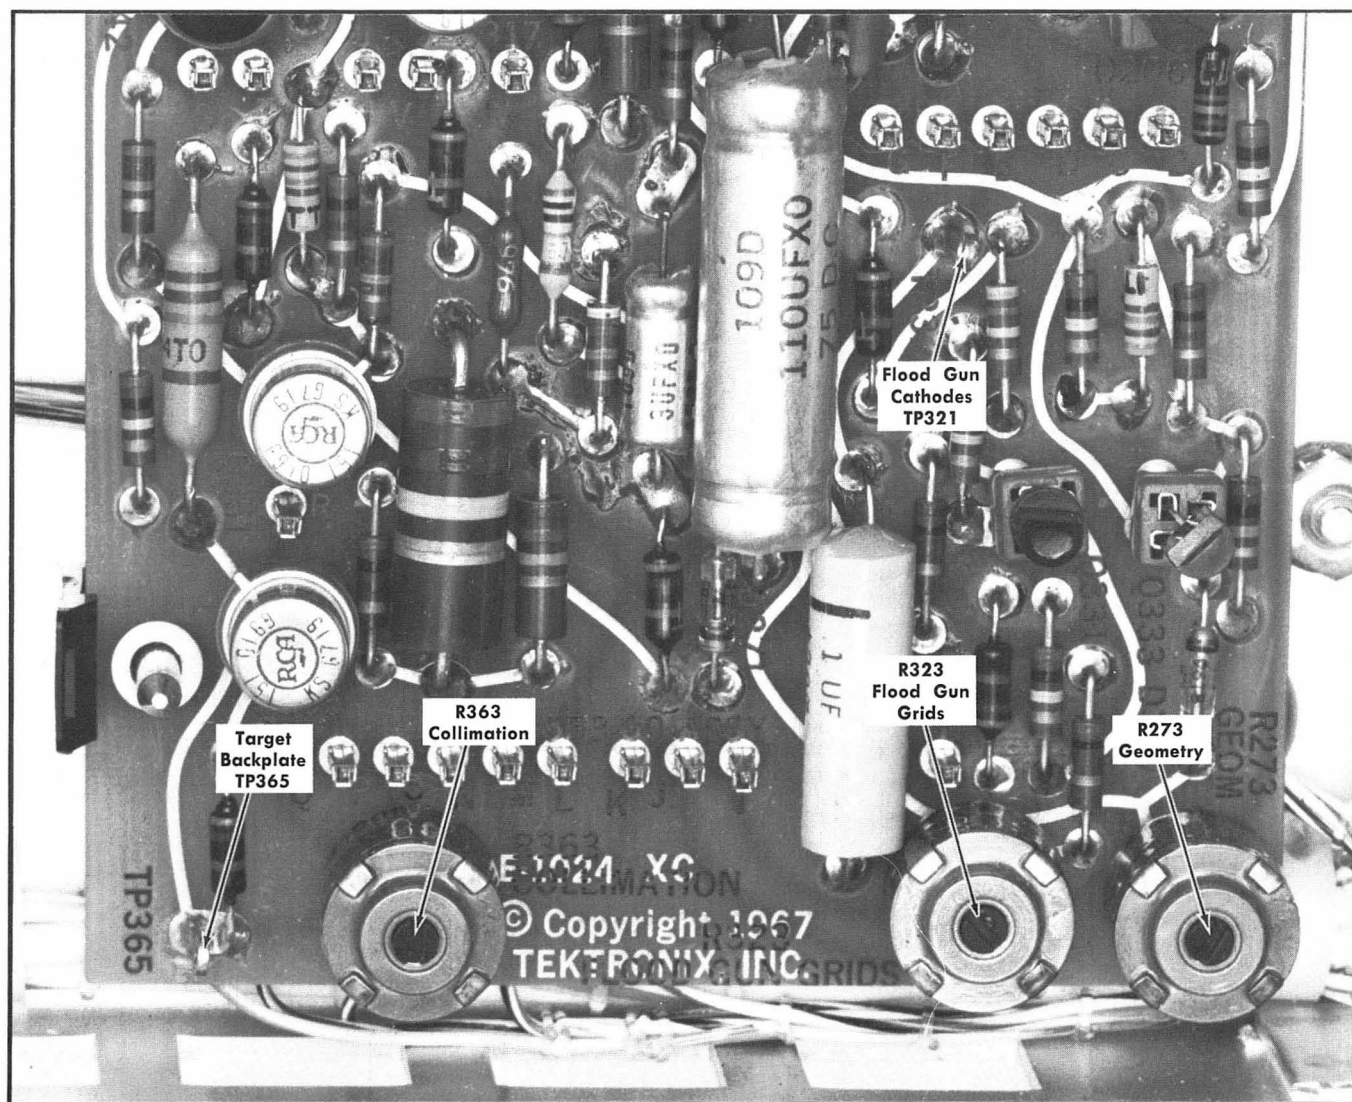
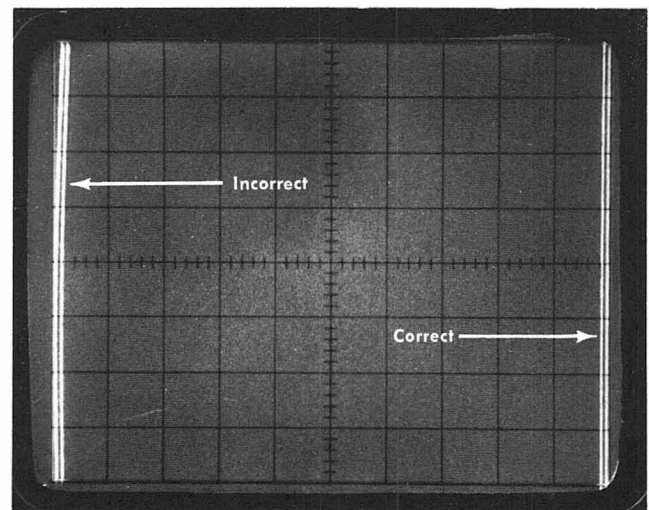

Fig. 6-6. Location of storage controls and test points.
Fig. 6-11. Typical display when checking geometry.
b. Connect a DC voltmeter, set to the 300-volt range, between the BACKPLATE VOLTAGE test point located on the front panel (or TP365 on the Storage Board; see Fig. 6-6) and the flood gun cathodes, TP321 (Fig. 6-6).
i. With the screen fully written, rotate the Flood Gun Grids control, R323 (Fig. 6-6), fully counterclockwise. Note the shadows around the edges of the screen.
k. Rotate the Collimation control, R363 (Fig. 6-6), fully clockwise.
e. ADJUST—Geom, R273 (Fig. 6-6), for minimum bowing of the display. Bowing must not exceed 1 mm. See Fig. 6-11.